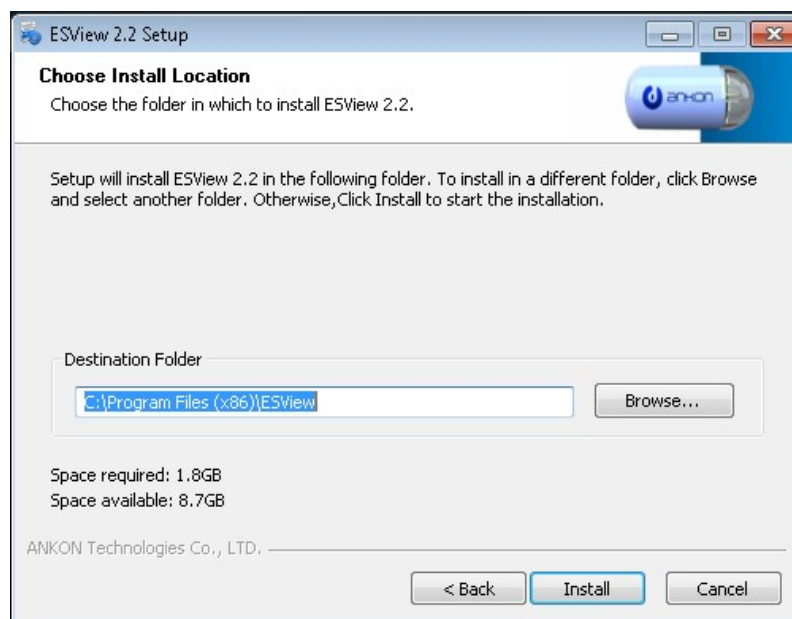

Figure 3-3: Selection of Installation Directory
3. The dialog box for selecting the destination folder (Figure 3-3) is displayed. The default installation directory is C:\Program Files(x86)\ESView. Click "Browse" to change the directory. Click "Install" to continue installation in the selected directory.